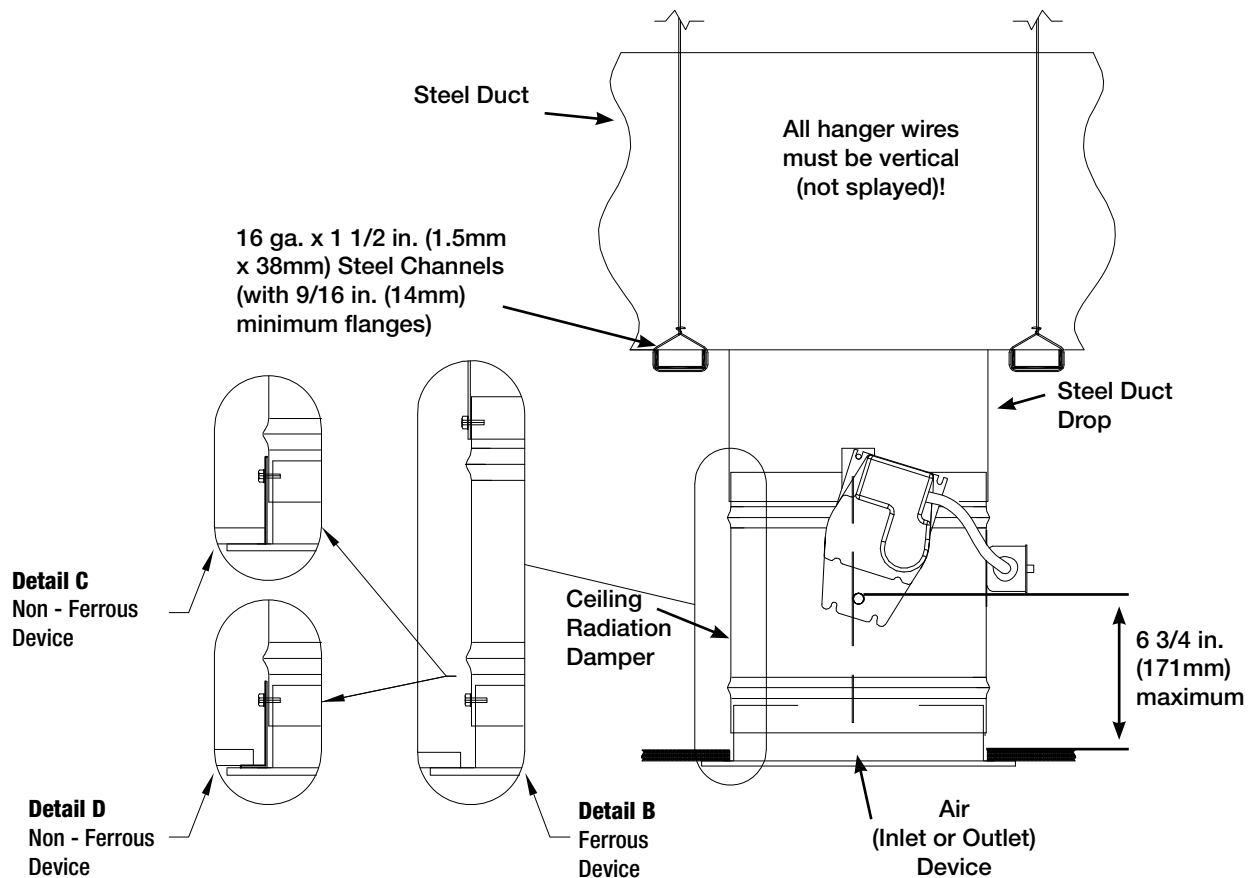

Figure 3
1. Ceiling radiation damper may be connected directly to the air device neck and then the duct drop connected to the damper (see *Detail B, Figure 3*).
1. A steel duct drop from the damper extension should extend to the bottom surface of the ceiling membrane and the opening in the ceiling membrane (see *page 2, paragraph 3*) should be equal to the outside of the duct drop (see *Detail C, Figure 3*).
2. A steel angle should be attached to the bottom of the ceiling radiation damper and span the gap from the ceiling radiation damper to the bottom of the ceiling membrane. The steel angle should overlap the ceiling membrane (see *Detail D, Figure 3*).
Models CRD-501 may be installed as shown in **Figure 3**.